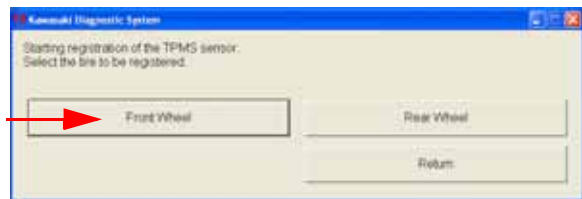

Fig. 5-22 TPMD ID Registration
- o Fig. 5-22 appears, select **Front Wheel**.